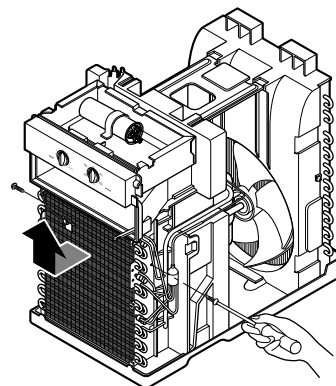

Figure 17
8. Re-install the components by referring to notes. (See Figure 17)